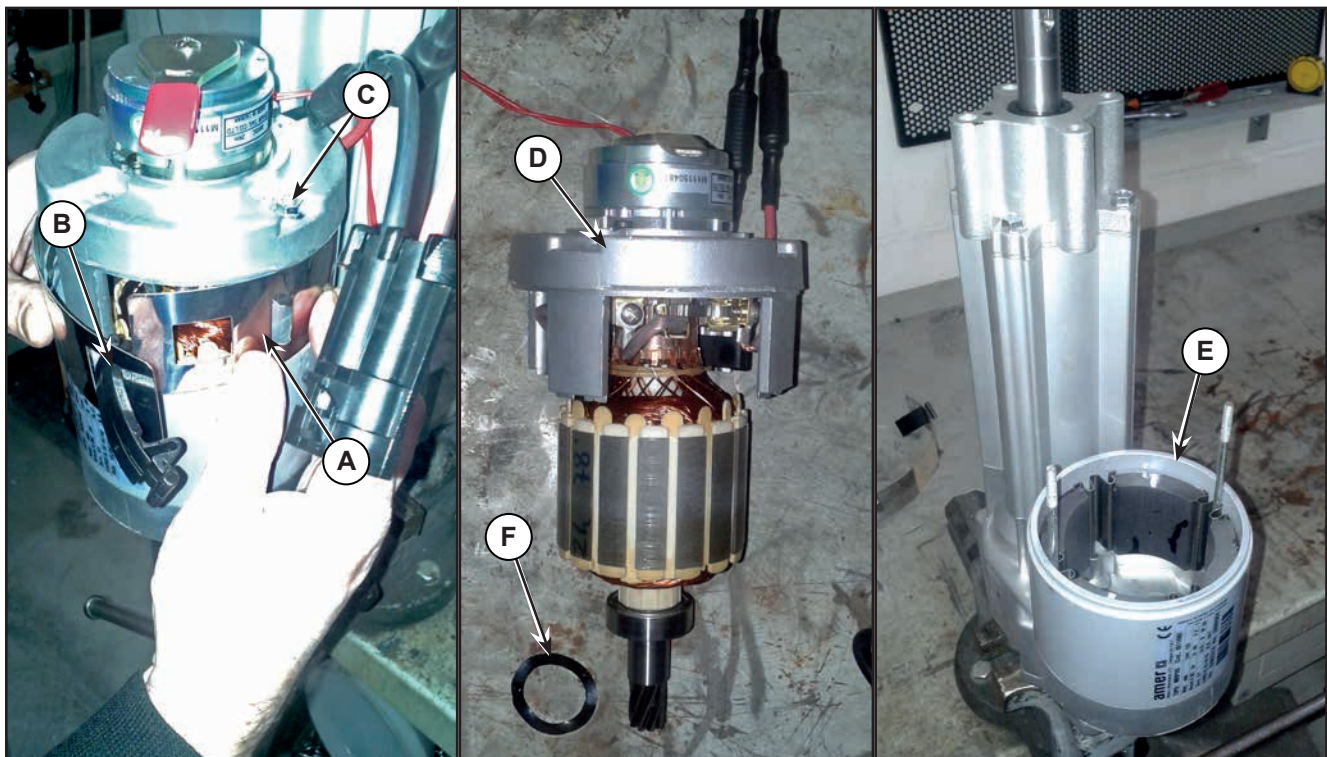

Figure 10:
3. Remove the clamp (A, Figure 10) by disengaging the tab (B).
4. Remove the two nuts (C), carefully remove the motor armature (D) from the stator cylinder (E).
5. Retrieve the retaining ring (F).